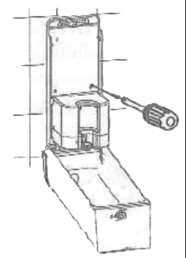

Fig. 5
- › Tighten all screws (fig.5)